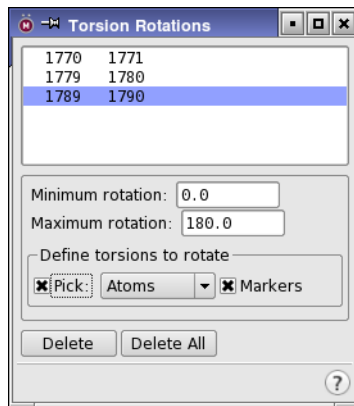

Figure 4.3. The Torsion Rotations panel.
- In the CSearch tab, from the Search variables option menu choose Torsion Rotations, then click Edit, to open the Torsion Rotations panel (see Figure 4.3).